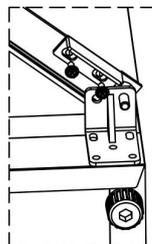
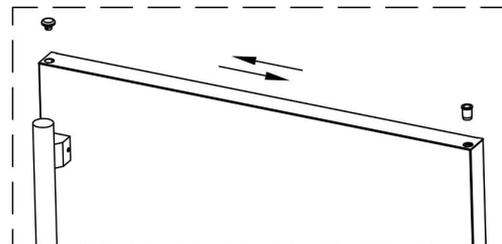
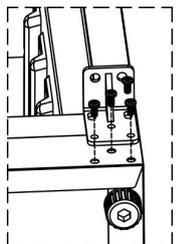
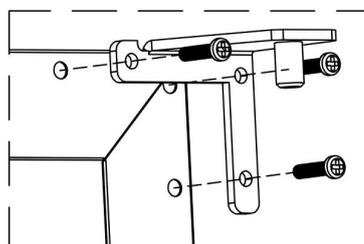

Fig.1
Fig.2
Fig.3
Fig.4
Place the handle (Fig.1) over the pins (Fig.2) of the door
Tighten the handle by screwing in screws with an Allen wrench (not included) (Fig.3).
3. Pull the shelf forwards (Fig.1) until the groove on either side of the shelf is level with the plastic peg on either side of the cabinet. (Fig.2). Uplift the shelf from both sides (Fig.3), and then firmly pull out the shelf. (Fig.4).
2. Using a Philips screwdriver, remove the two screws and bottom right hinge beneath the door. Keep the hinge in a safe place in case you need to reverse the door again in the future. (Fig.1)
- the top of the door. (Fig.2)
5. Remove the bottom support bracket from the right side. (Fig.3)
6. Remove the top right hinge and keep in a safe place in case you want to reverse the door in the future. (Fig.4)